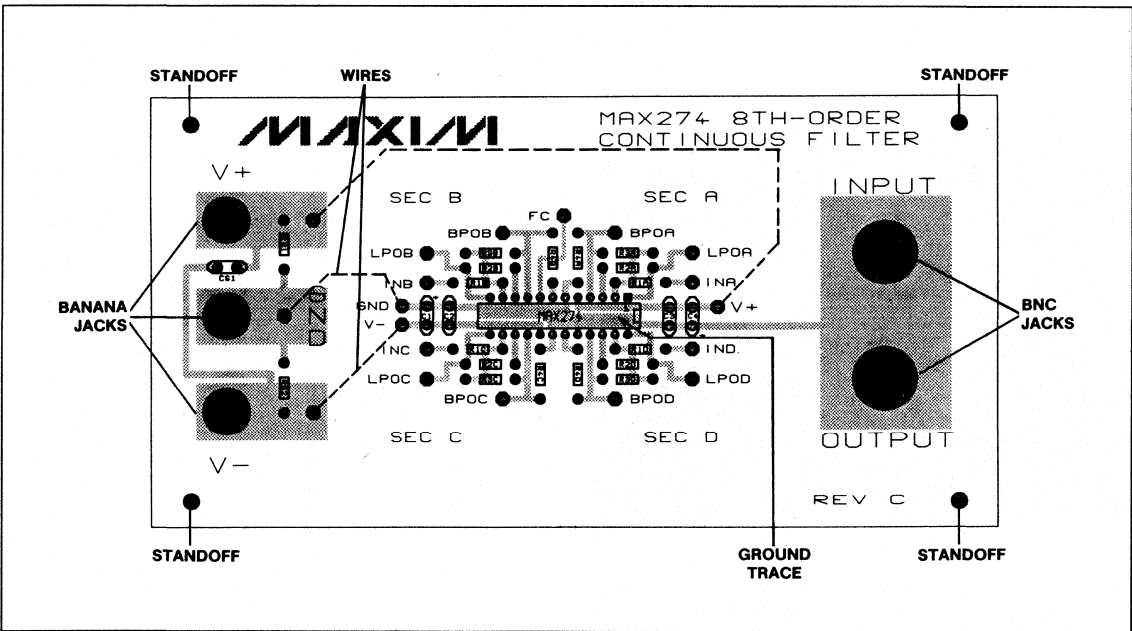
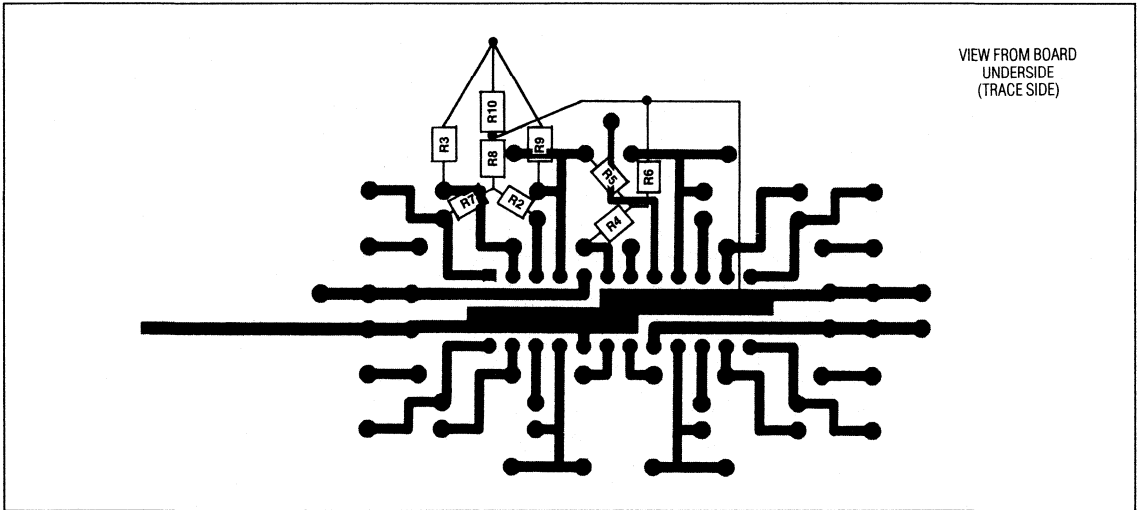

Figure 2. MAX274 EV Kit Component Placement Diagram
Figure 3. T-Network PC Board Connections
1. Install BNC connectors and banana jacks as shown in Figure 2. Connect wires from the V+, GND, and V- on the circuit. Install MAX274 IC as shown (or install an IC socket if desired).
On the PC board, scratch off the green soldermask from the ground trace (Figure 2). Where required, substitute each normal resistor connection (R2, R3, or R4) with three T-network resistors on the underside of the board, using jumper wire to connect the T-network ground connection with the ground trace on the PC board (Figure 3).
where FPK is the frequency at which the gain at BPOA is greatest (this may not be equal to  $F_0$ ); and the -3dB bandwidth is the difference between the two frequencies at which BPOA is attenuated by 3dB from its peak gain. Repeat these measurements for filter sections B, C, and D. For more information, refer to Figure 2 of the MAX274 data sheet, *Bandpass Output*.